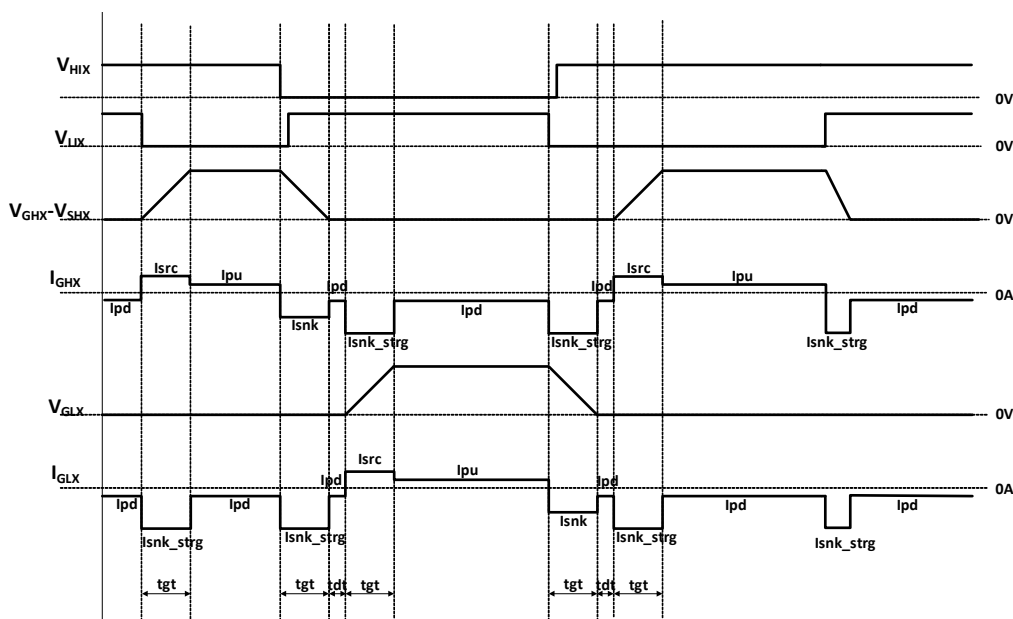

Figure 22. Gate Drive Timing in 3-phase HI/LI Mode with Short HI/LI Inserted Dead Time
- Total effective dead time is adaptive dead time plus dead time setting (see Figure 22).